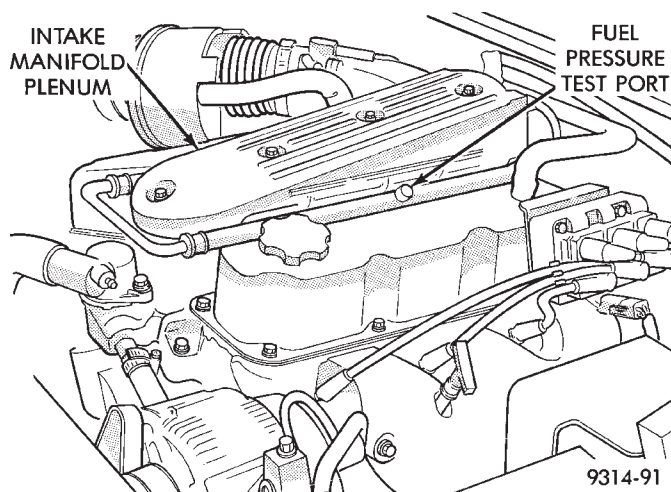
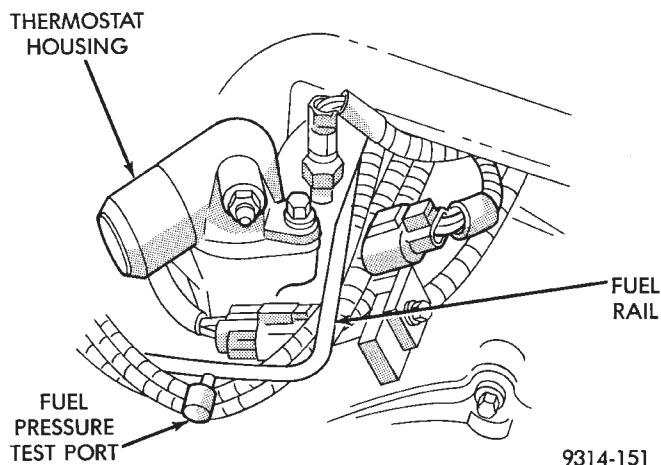

Fig. 12 Fuel Pressure Test Port—3.3L Engine
Fig. 13 Fuel Pressure Test Port—3.5L Engine
- (1) Disconnect negative cable from battery.
- (2) Remove fuel filler cap.
- (3) Remove the protective cap from the fuel pressure test port on the fuel rail (Fig. 12) or (Fig. 13).